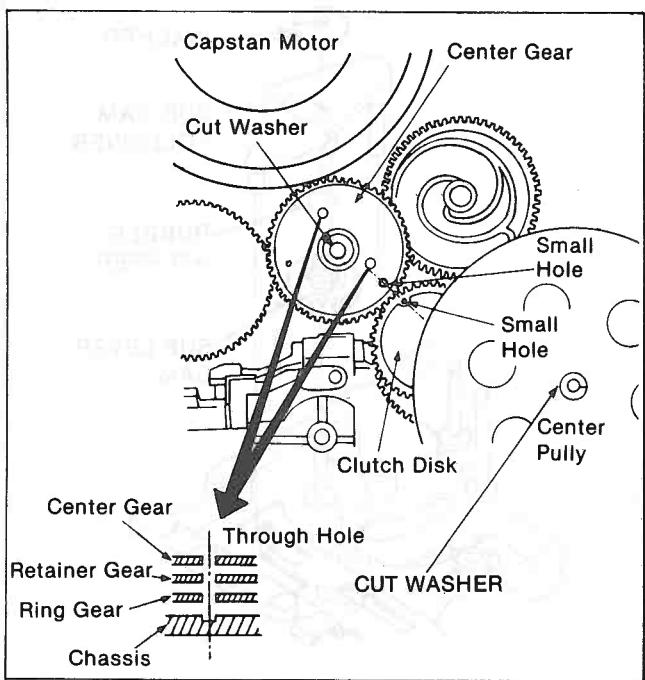

Figure M48
- Install the Center Gear onto the Retainer Gear so that the two holes in the Center Gear align with the holes on the Retainer Gear, then install the cut washer as shown in Figure M48.
- Install the Clutch Disk so that the small outside hole on the Center Gear aligns with the small outside hole on the Clutch Disk, then insert the cut washer as shown in Figure M48.